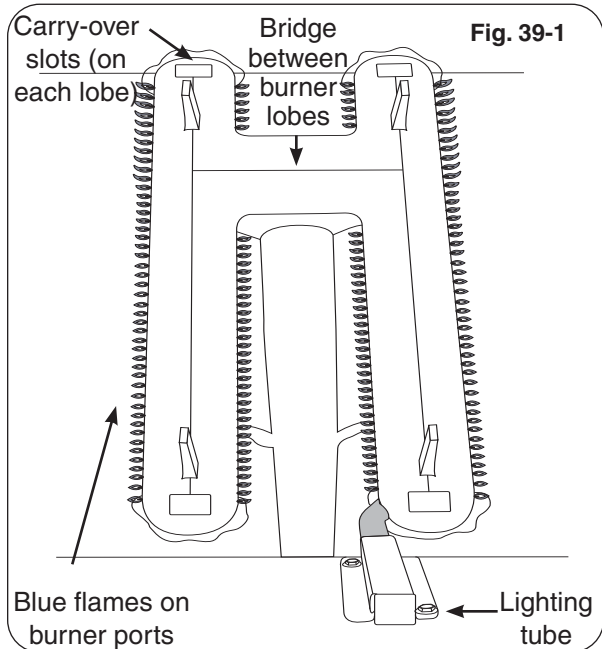

Fig. 39-1
Flames from a properly adjusted main burner with no wind or breeze present will appear fairly steady, consistent, and mostly blue. If the tip of a flame were to turn orange, it should only do so briefly and then become blue again. The flames will appear to burn while touching the burner ports (see Figure 39-1).
6. Repeat steps 1-4 until the flames appear to touch the burner ports, burning fairly steadily and mostly blue (see Fig. 39-1).